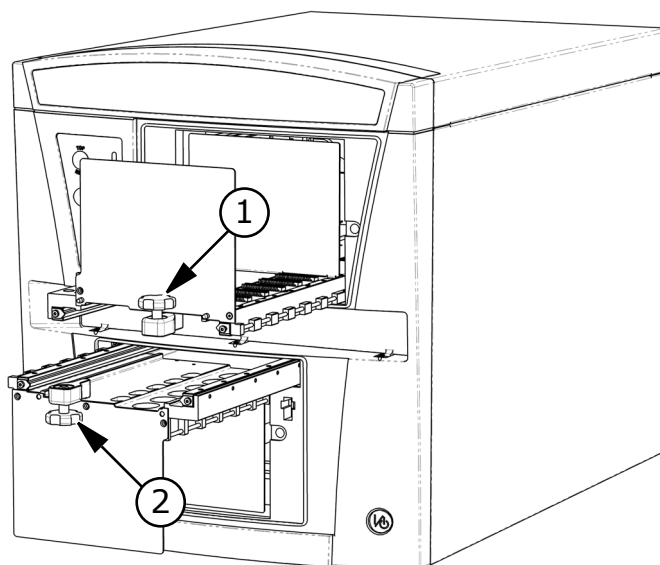

Figure 1-6 Removing Transport Locks from Detection Cartridge Drawers
5. Slide the top read detection cartridge drawer forward until it is outside of the main instrument (Figure 1-6).
6. Remove the top read detection cartridge drawer transport lock (Figure 1-6). Store the transport lock in the instrument accessories toolbox.
8. Slide the bottom read detection cartridge drawer forward until it is outside of the main instrument (Figure 1-6).
9. Remove the bottom read detection cartridge drawer transport lock (Figure 1-6). Store the transport lock in the instrument accessories toolbox.